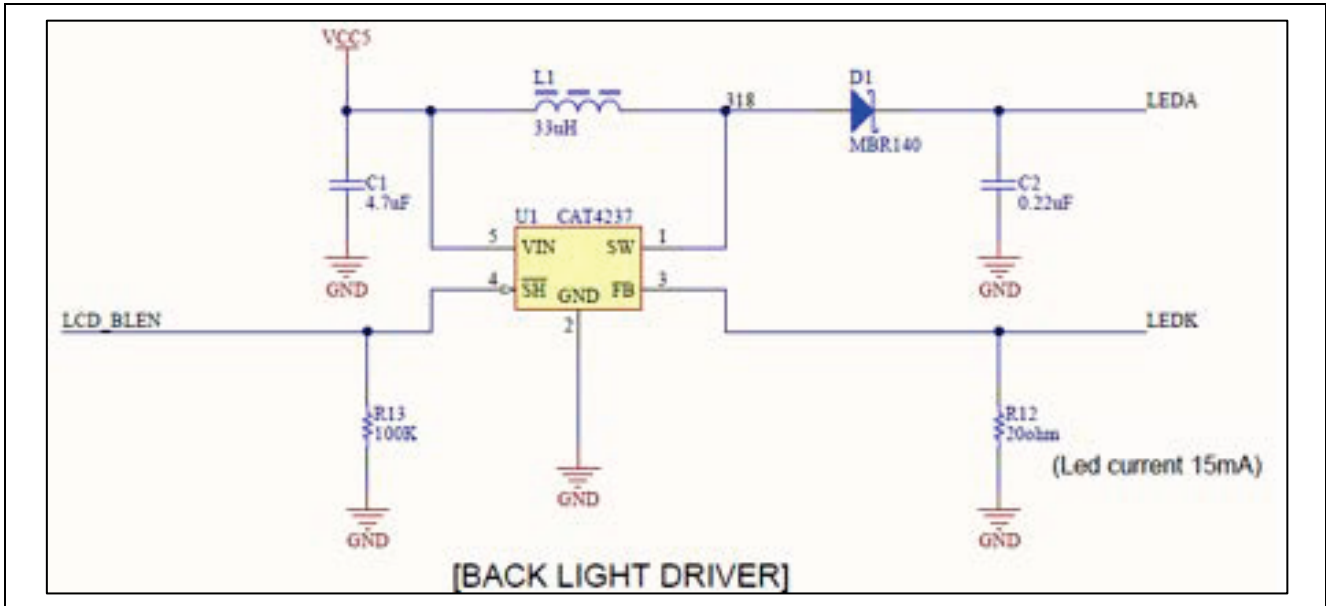

Figure 17. LCD_BLEN will connect to DISP_BLEN pin P404
14. LCD_BLEN pin from the LCD panel will connect to DISP_BLEN pin P404 of the board RA8D1 **Figure 17**.